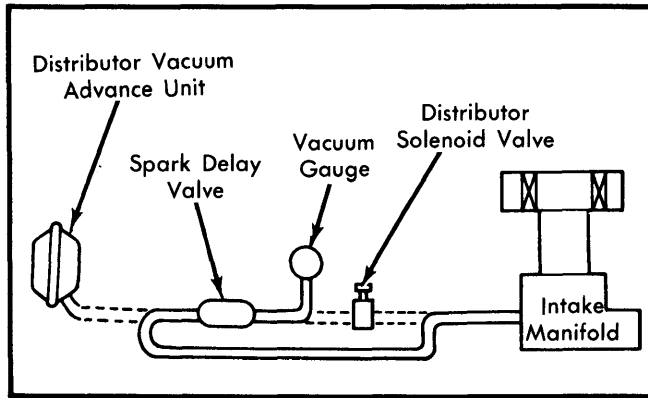

Fig. 3 Spark Timing Control System Test Connections (2.3 Liter Engine – Calif. Man. Trans.)
2.3 Liter Engine (Calif. Man. Trans.) – 1) Disconnect vacuum tube from vacuum delay valve at distributor solenoid valve. Connect a vacuum gauge to vacuum tube. See Fig. 3.